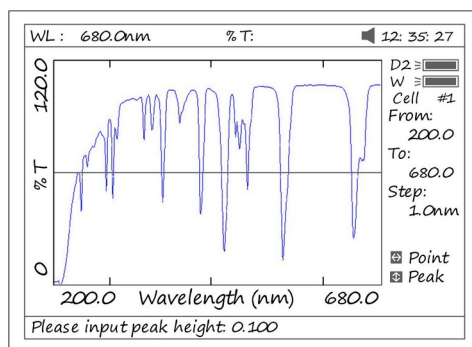
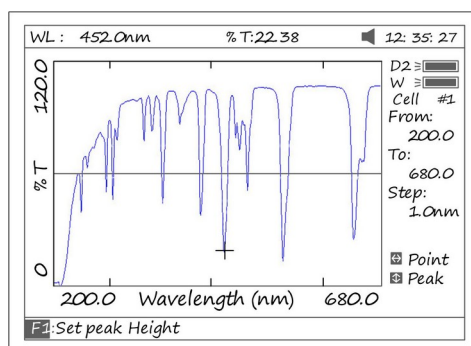

Fig 50
Fig 51
1) Peak to peak, press [F1] to set “peak height” and input value by pressing the numeric keypad (Fig 50). Press [ $\lambda$ ] to search the peak from left to right and press [v] to search from right to left. The value of every peak found will be displayed on the screen one at a time (Fig 51).